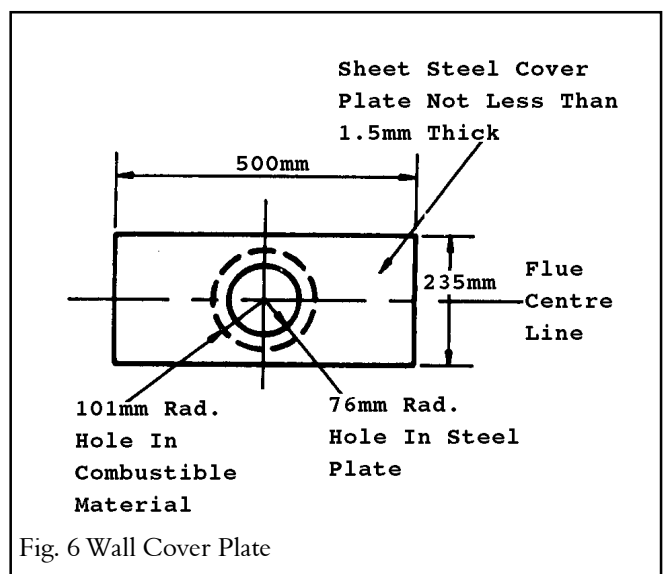

Fig. 6 Wall Cover Plate
5.12.1 Mark out and cut a hole 202mm diameter through the combustible part of the wall. A 152mm diameter hole can be cut through non-combustible parts of the wall (see figure 6).
5.12.2 Cover the hole with a square sheet steel plate 500mm x 235mm with a 152mm diameter hole cut out of the centre (see figure 6). The steel should be not less than 1.5mm thick. Fix with suitable screws and plugs.